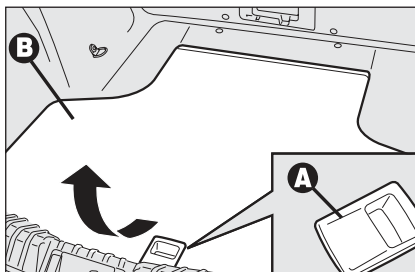
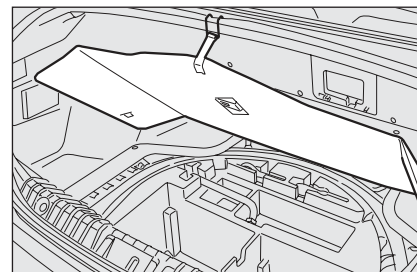

fig. 2
fig. 3
- ☐ Using handle **A-fig. 2**, lift the stiff cover **B** and secure it as shown in **fig. 3**;